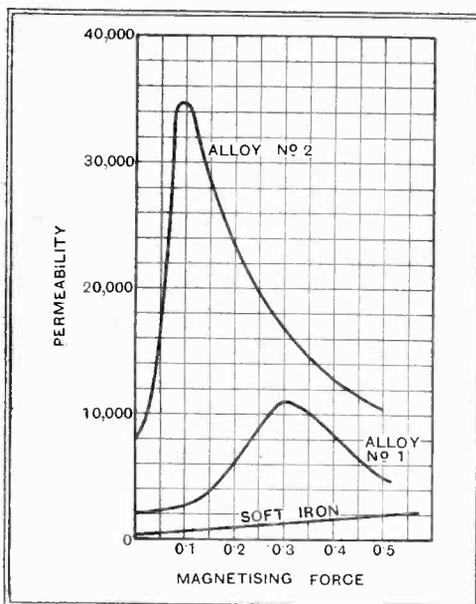

Fig. 1.—The enormous increase of permeability when certain metals are alloyed with iron can be seen from these curves.
**The Story of the Small L.F. Transformer—** found to be beneficial in certain circumstances. The results obtained in terms of this property "permeability" were quite astonishing, and are best realised by looking at the curves in Fig. 1, which give a comparison between ordinary soft iron and two alloys of iron containing nickel and small quantities of other metals. A first inspection probably gives the impression that these alloys are enormously superior to the ordinary iron, but, before jumping to any conclusions, we have to consider a number of other factors, with the result that, although the alloys are definitely superior, the relative usefulness is rather more favourable to the iron than the graph would indicate.
With regard to the performance characteristics which we have just discussed, so far so good, but we only get these improvements if we use the transformer in the right way, and that is where the main snag arises. If we look again at the curves of Fig. 1 we see that the quantity along the horizontal axis is marked "magnetising force," and that the permeability, and therefore the inductance, varies with this magnetising force. The size of this force is determined by the current in the transformer and the number of turns of the winding. It is usually expressed in units named after Gauss, a pioneer worker in magnetism, and is given by  $\frac{4\pi}{10} \times$  ampere turns in the winding.
The graph of Fig. 1 only shows the value when this magnetising force is quite small, but even at the greatest value shown there (i.e., 0.5) it is evident that the permeability of the alloys is falling fast, while that for iron is going up steadily. If we had 5 milliamps.
fully dealt with in previous articles (see article by Aughtie and Cope, *The Wireless World*, December 11th, 1929), and results are given enabling one to select the appropriate values for any given combination of valve impedances, primary inductance, and the lowest frequency to be fully amplified. There is, however, one point about the circuit which is new, and that is the resistance R1 connected across the coupling condenser. This is not a short-circuit on the H.T. battery, as might be supposed, as its value is high, of the order of a megohm. The reason for its use lies in the shape of the curve connecting permeability with magnetising force. Fig. 1 shows that when the magnetising force is nothing, or very small, the permeability is less than it is for slightly greater values of the magnetising force. Also the permeability is not proportional to the current in a simple way, that is to say, the graph connecting them is not a straight line.